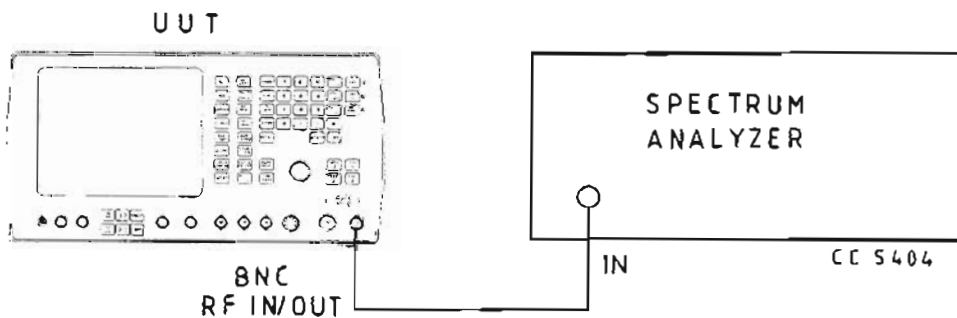

Fig. 27 Test equipment connections for r.f. generator harmonics, sub-harmonics & spurious signals performance checks
- (1) Connect the equipment as shown in Fig. 27.
- (2) Set the u.u.t. to RX, RF GEN, carrier frequency 530 MHz, level 0 dBm, b.n.c. output socket.
- (3) Adjust the spectrum analyzer to reference the 530 MHz fundamental on the top graticule line.
- (4) Check that all sub-harmonics are less than -25 dBc.
- (5) Repeat the above for r.f. generator frequencies between 530 and 1000 MHz.
- (2) Set the u.u.t. to RX, RF GEN, carrier frequency 88 MHz, level 0.0 dBm, b.n.c. output socket.
- (3) Adjust the spectrum analyzer controls to reference the 88 MHz fundamental on the top graticule line.
- (4) Check that all spurious signals below 110 MHz are less than -45 dBc and all spurious signals above 110 MHz are less than -35 dBc.
- (5) Repeat for random carrier frequencies between 0.4 and 88 MHz.
- (6) Repeat for random carrier frequencies between 88 and 1000 MHz checking that all spurious signals are less than -60 dBc.